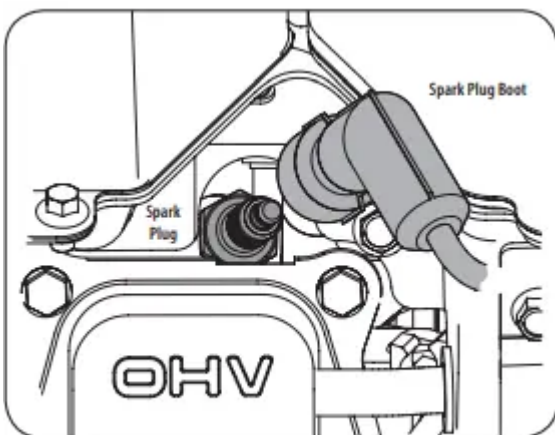

Figure 55
- Remove the spark plug boot and use a spark plug wrench to remove the plug. See Figure 55.